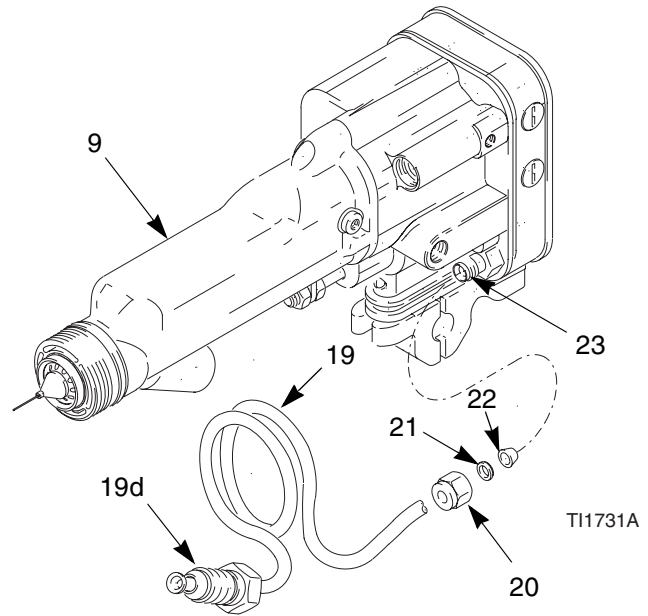

Fig. 10. HC Conversion Kit
1. Turn the turbine air (TA) off.
4. Remove the retaining ring (1), air cap (3), and shroud (2).
5. Refer to the parts drawing for Model 244589 on page 45. Loosen the two nuts (20) and remove the fluid tube (19) and ferrules (21, 22). Remove the other parts (14, 15, 16, 17, 18) at the gun barrel inlet.
6. Slide the loops of the hc tube (19) onto the gun barrel (9).
7. Make sure the barrel threads are clean and dry. Apply Graco Part No. 116553 dielectric grease to the fluid fitting (19d) threads and o-rings. Thread the fitting into the barrel inlet. See FIGURE 10.
8. Slide the nut (20) and ferrules (21, 22) onto the coiled tube (19). Insert the end of the tube into the fitting (23). Make sure the ferrules seat in the fitting. Tighten the nut (20).